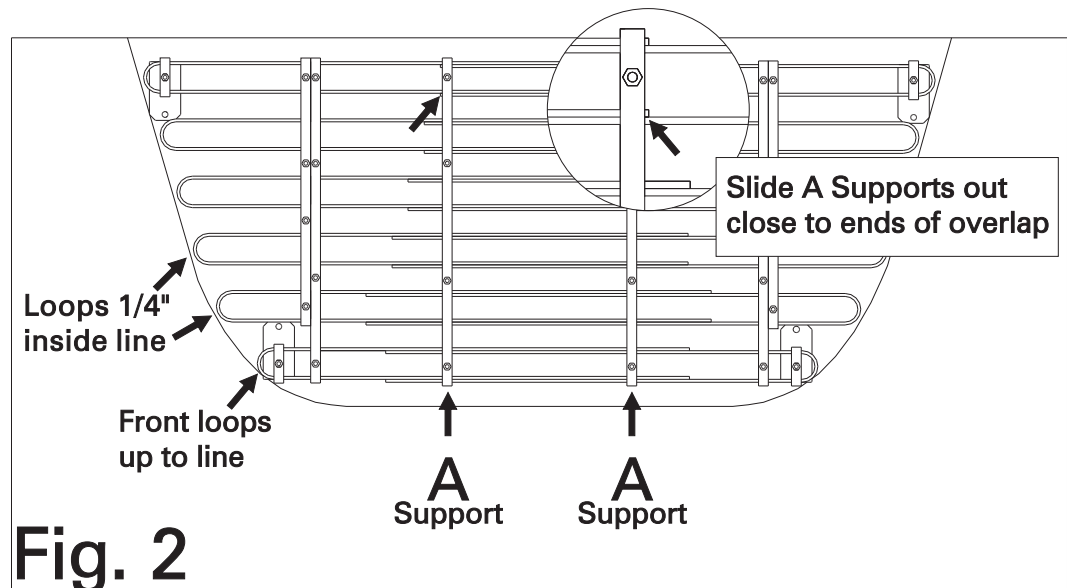

Fig. 2
4. Loosen all nuts about 1 1/2 turns. Slide front set of loops out even with traced line. Slide all remaining loops out to 1/4" inside traced line. If loops will not slide easily then check to see that all bolts are loose and that supports remain straight to keep them from binding on loops (SEE FIG. 2).
5. With grate properly adjusted and positioned in pattern, temporarily tighten right side A support (this will lock position of loops). Slide left A support away from right A support as far as possible WITHOUT GOING PAST EDGE of overlap (rear loops usually have least amount of overlap). When sliding supports it is necessary to move both ends at same time (holding support perpendicular to loops) to avoid binding on loops. Now tighten bolts on left A support (SNUG IS BEST - DO NOT OVER TIGHTEN). Loosen right A support and slide away from left A support in same manner, then tighten (SEE FIG. 2). The overlap area between the supports maximizes the grate's rigidity. There should never be less than 2" space between the A supports. If this is the case then DO NOT USE THE ADJUST-A-GRATE, contact your dealer for options.